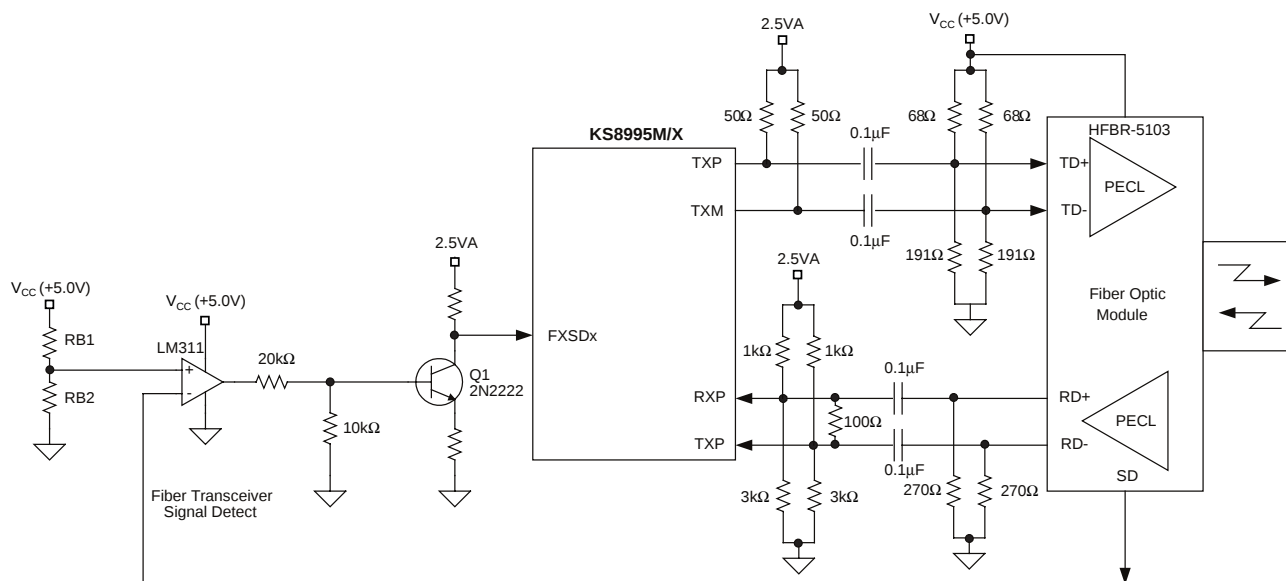

Figure 2. KS8995M/X Connections to 5.0V Fiber Optic Module
The typical connections from the KS8995M/X to a 5.0V fiber optic module, such as the Agilent Technologies HFBR-5103, are shown in Figure 2. The system designer must connect the signal detect (SD) output from the module to the fiber signal detect (FXSDx) input for port 4 or 5 on the KS8995M/X through a comparator circuit such as the one shown in Figure 2.
on the fiber optic module via 0.1 μ F capacitors. These capacitors are needed due to the DC bias difference between the KS8995M/X and the fiberoptic module. The TD+ and TD- PECL inputs on the fiber optic module require a split load termination connected to +5.0V and ground as shown in Figure 2. These terminations have two purposes. The first is to correctly DC bias the signal, and the second is to provide a 50 Ω termination for the PECL input circuitry.